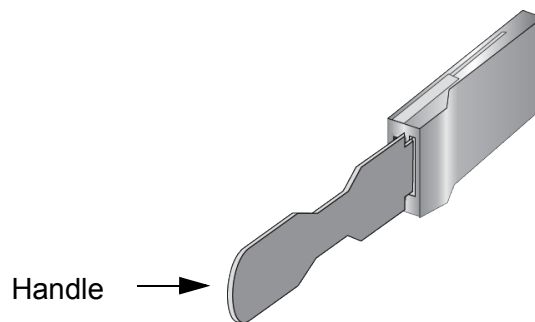

Figure 115. Handle on 100Gbps Transceivers for XEM2-1CQ Line Cards
- ❑ 100Gbps transceivers for XEM2-1CQ Line Cards have handles. Use the handles when installing or removing transceivers. An example is shown in Figure 115.